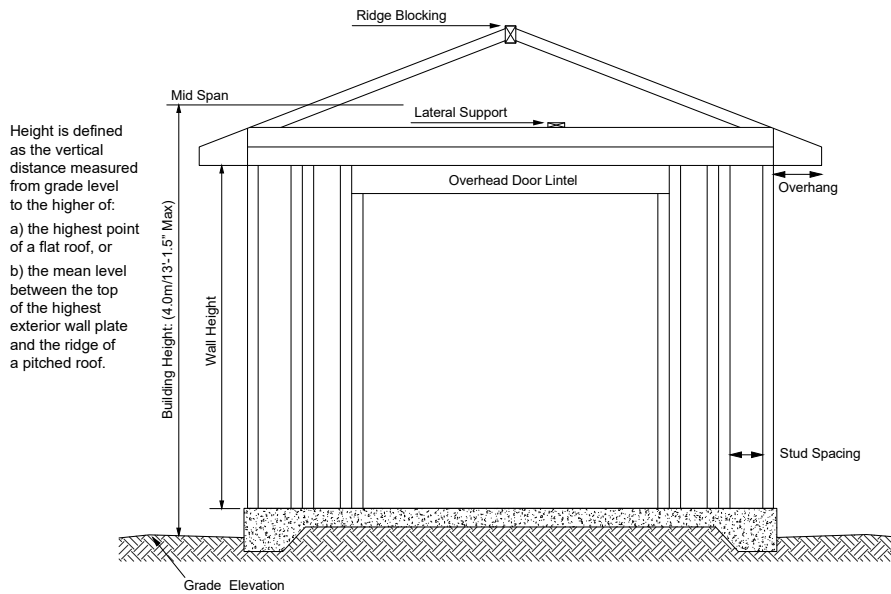

Figure 1 - Sample Garage Cross Section (for applicant reference only)
Building Drawings (see Figures 1 & 2)
- Building height (see Figure 1): _____